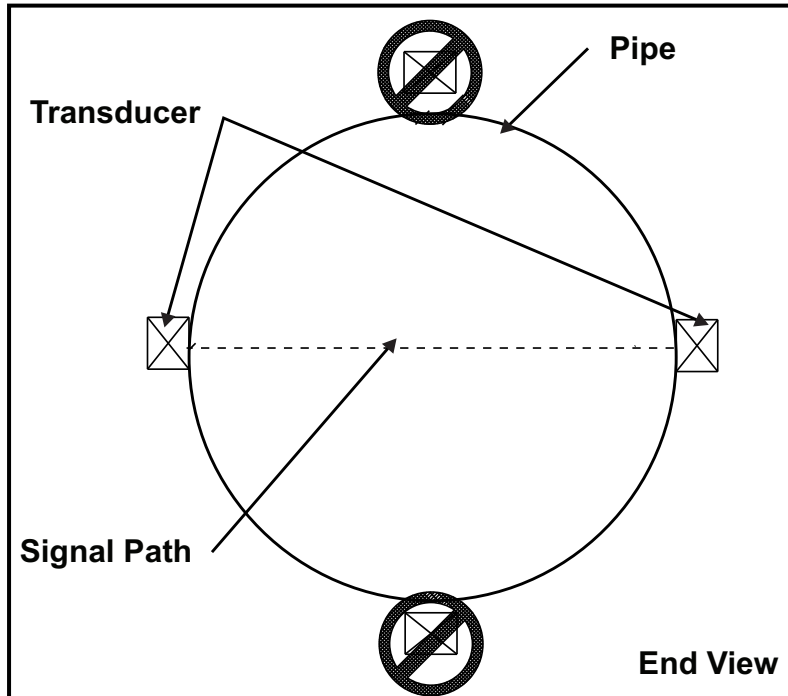

Figure 2: Transducer Placement
2. Place the transducers as close as possible to the horizontal plane of the pipe (see Figure 2). Locate the transducers on opposite sides of the pipe 180° apart, ideally at the 3 and 9 o'clock positions.